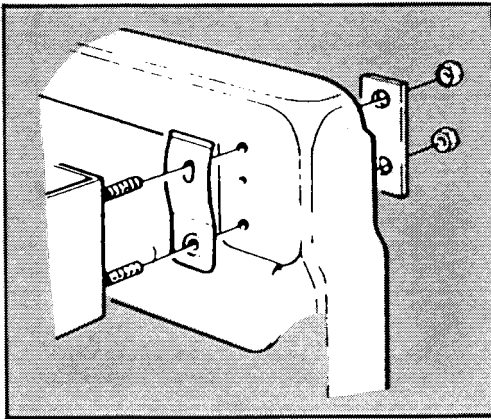

Fig. 5
7. Re-assemble in reverse order. (See Fig. 5).